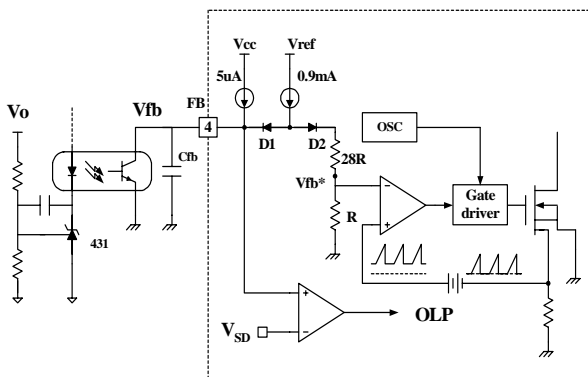

Figure 2. Pulse width modulation (PWM) circuit
**2. Feedback Control :** The FS6X1220RT employs current mode control. The voltage of the feedback pin is compared with the current sense voltage for pulse width modulation (PWM). Figure 2 illustrates the simplified PWM block. The feedback voltage determines the peak drain current of the SenseFET. Usually opto-coupler along with TL431 are used to implement feedback network. The collector of the optocoupler transistor is connected to feedback pin and the emitter is connected to the ground pin. When the voltage of the reference pin of TL431 exceeds the internal reference voltage of 2.5V, the optocoupler diode current increases, pulling down the feedback voltage.
**3.1 Pulse-by-pulse current limit :** As shown in figure 2, the drain current of the power MOSFET is limited by the inverting input of PWM comparator ( $V_{fb}^*$ ). Assuming that the  $0.9mA$  current source flows only through the internal resistor ( $28R + R = 2.9k$ ), the cathode voltage of diode D2 is about 2.6V. Since D1 is blocked when the feedback voltage ( $V_{fb}$ ) exceeds 2.6V, the maximum voltage of the cathode of D2 is 2.6V. Therefore, the maximum value of  $V_{fb}^*$  is about 0.1V, which limits the peak value of the power MOSFET drain current.